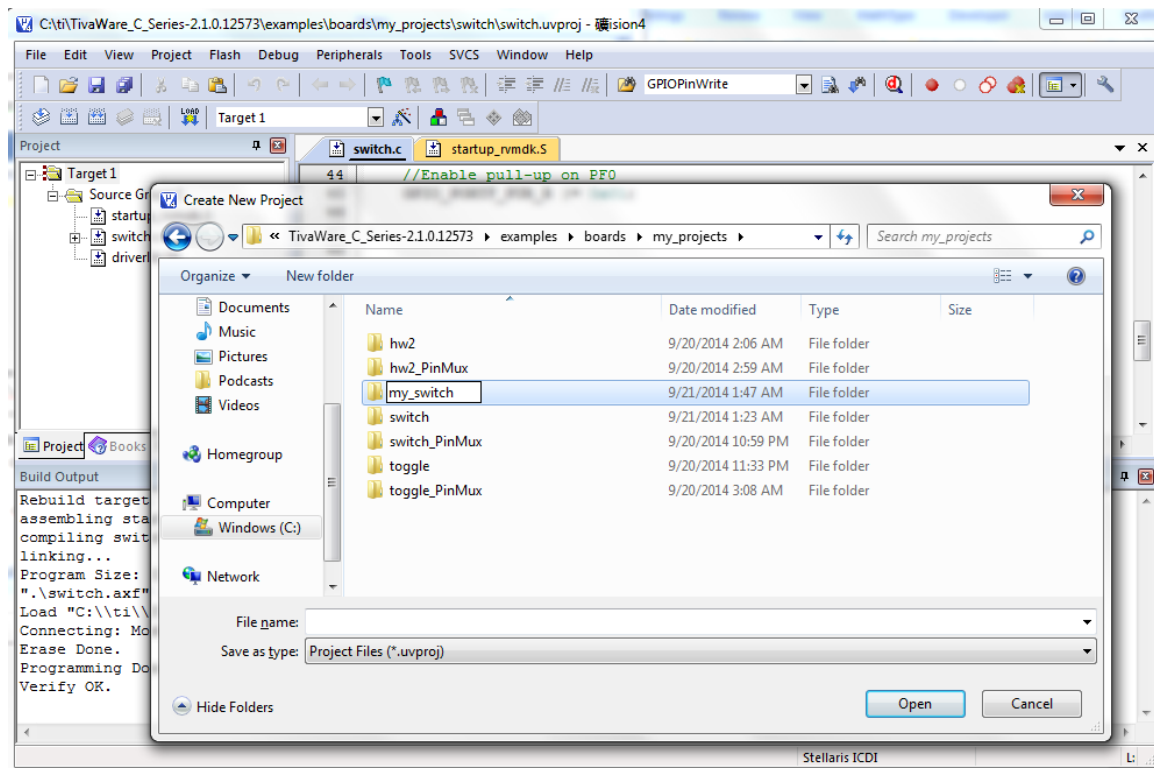
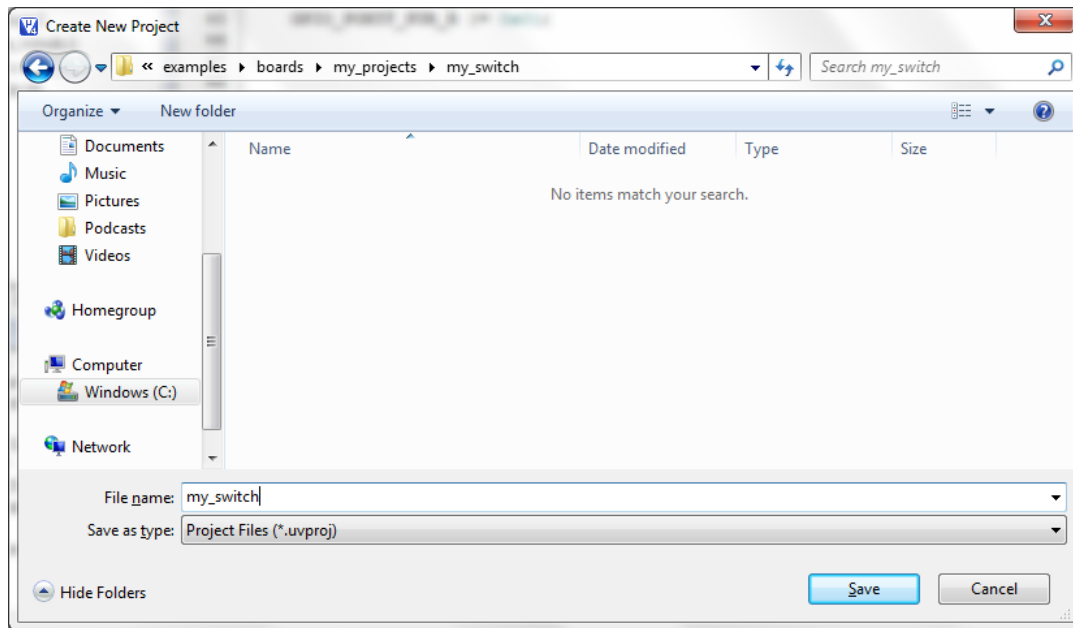

Figure 13
Figure 14
2. The Create New Project dialog box appears (see Figure 13). To use the functions in the TivaWare library, we need to do some configuration. In this example, we create the project within the TivaWare tree by saving it in the existing *C:\ti\TivaWare\_C\_Series-2.x.x.xxx\examples\boards\my\_projects* directory. We first create a new folder named as *my\_switch*, and then create the project file *my\_switch.uvproj* in the *C:\ti\TivaWare\_C\_Series-2.x.x.xxx\examples\boards\my\_projects\my\_switch* directory (see Figure 14) and click “save”.